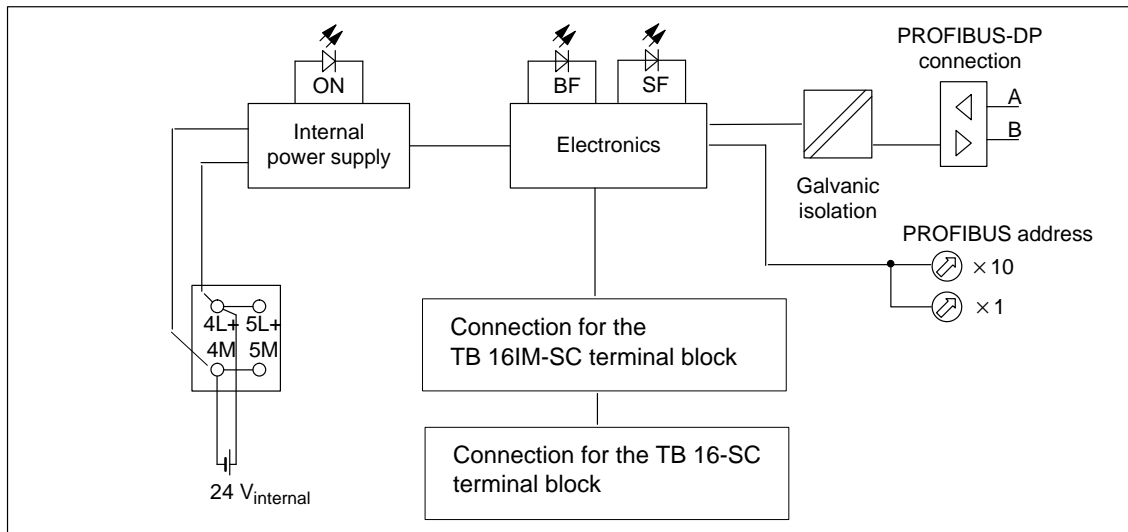

Figure 9-2 Block Diagram of the IM-SC Interface Module
**Block Diagram** Figure 9-2 shows the block diagram.